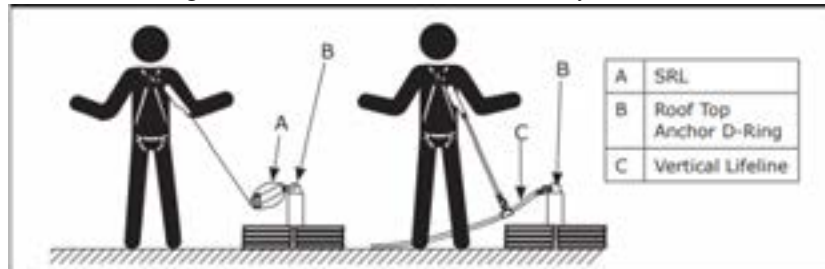

Figure 8
- a. Figure 8 illustrates the proper connection of typical fall arrest equipment to the LEAP anchor. Always protect the lifeline from abrading against sharp or abrasive surfaces on the roof. Make sure all the connections are compatible in size, shape and strength